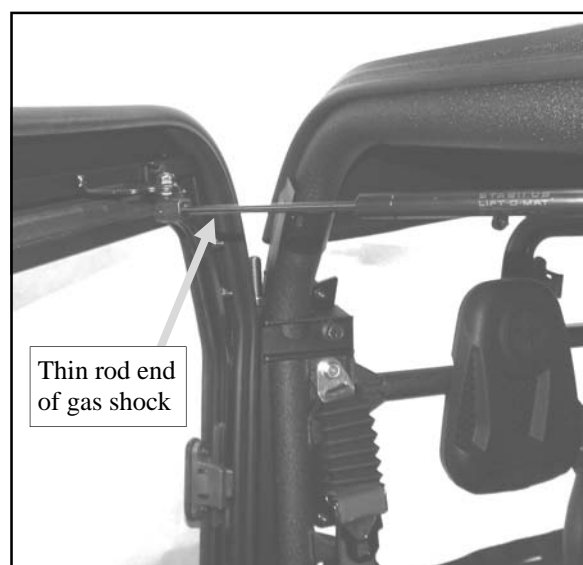

Fig. 11.5 (View of right side)
11.5 See fig. 11.5. Install the gas shocks so the thin rod end connects to the door (for best internal seal lubrication of the gas shocks).